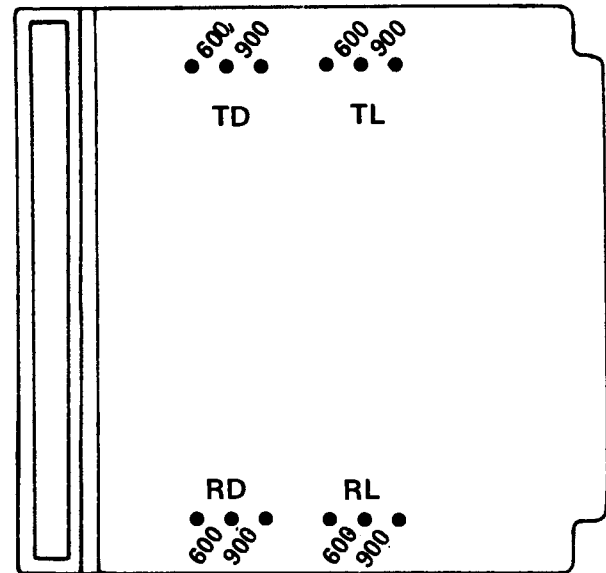

Figure 2. Strapping Post Location
7.01 The 4011 Line Amplifier module is provided with four, strappable impedance-matching line transformers. The impedance-matching line transformers provide for either 600 or 900 ohm input and output impedance (factory-strapped for 600 ohms). Figure 2 shows the location and identity of these strapping options.